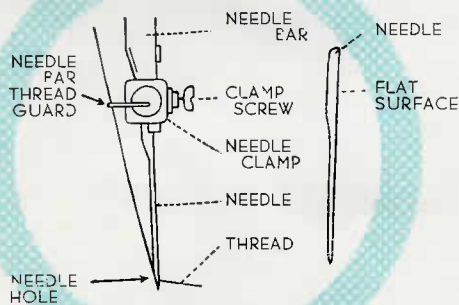

Fig. 3
2. Hold the needle in the left hand with the point down, and insert the needle up into the needle clamp as far as it will go, with its flat surface to the right; then retighten the clamp screw (Fig. 3).